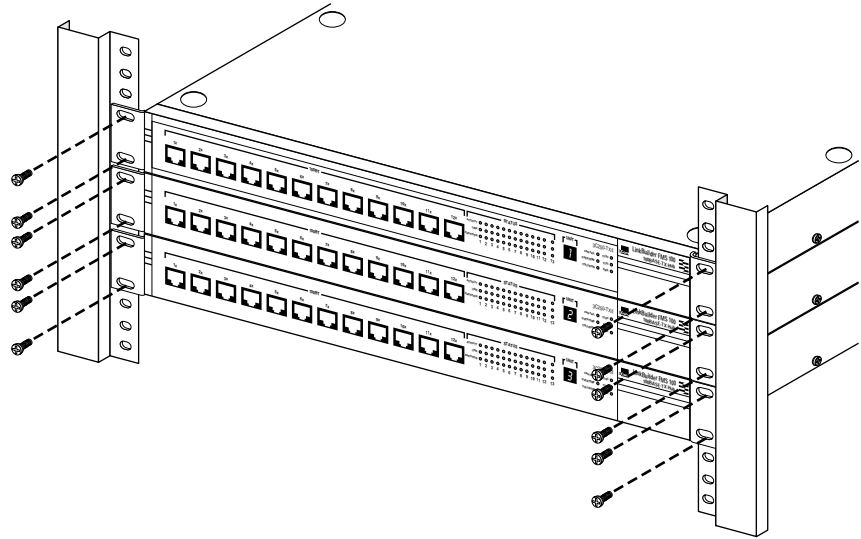

Figure 2-3 Installing a Hub Stack in a Rack
- 7 Insert each hub into the rack and fasten each one individually to the rack uprights, as shown in Figure 2-3.